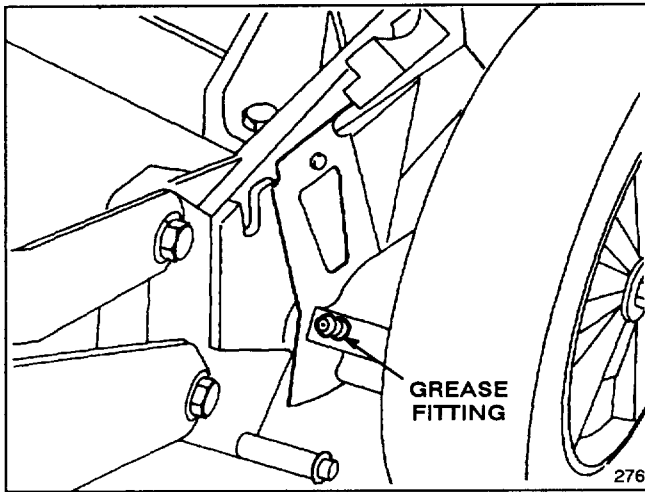

Figure 19
2. Move rear wheel height-of-cut levers to "C" setting. Wipe grease fittings with clean rag (Fig. 19). Install grease gun onto fitting and gently apply 2 or 3 pumps of #2 Multi-Purpose Lithium Base Grease.